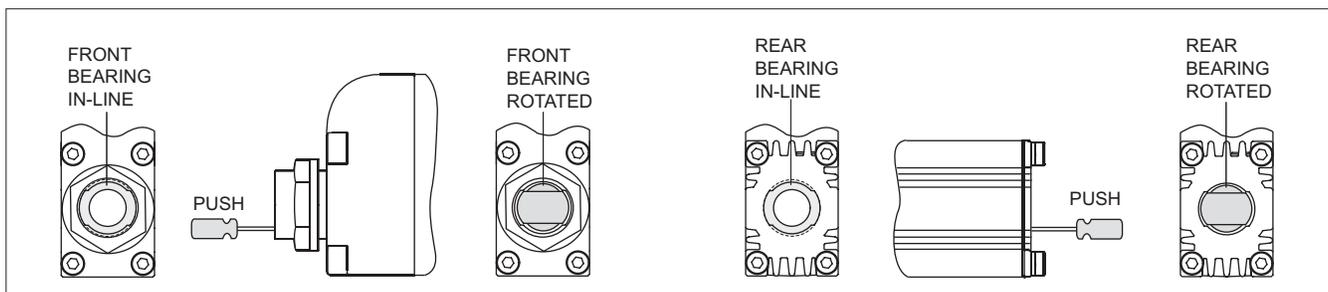

Figure 3.4 Setting the orientation of the front (left) and rear (right) spherical bearings.
- Use a small flat-blade screwdriver or similar, and rotate the spherical bearing through 90 degrees so that it aligns with the slot in the housing, see Figure 3.4.
- Insert the bearing in the slot in the housing and push down gently. It will be in the rotated position shown in Figure 3.4.
- Use a small screwdriver to rotate the bearing through 90 degrees until it is in the in-line position as shown in Figure 3.4.